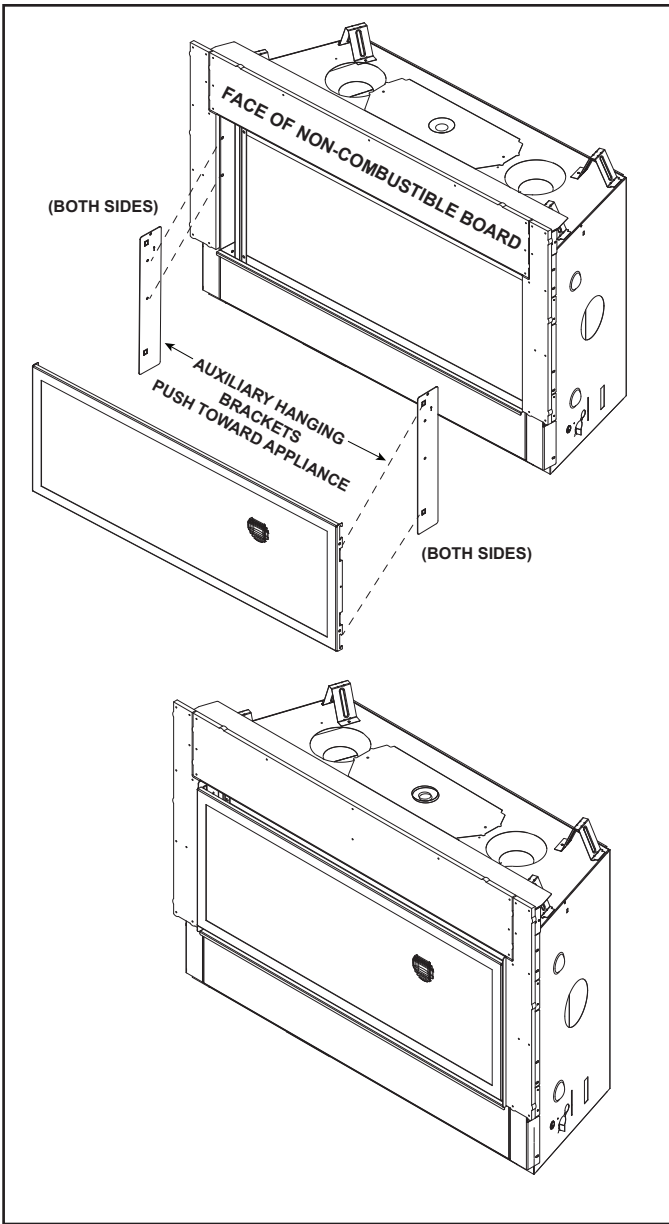

Figure 10.10 CFTF Front Without Outer Decorative Barrier Front Trim
**Note:** This appliance comes with the auxiliary hanging brackets (shown in Figure 10.10) installed. These will need to be removed when using the outer door trim.